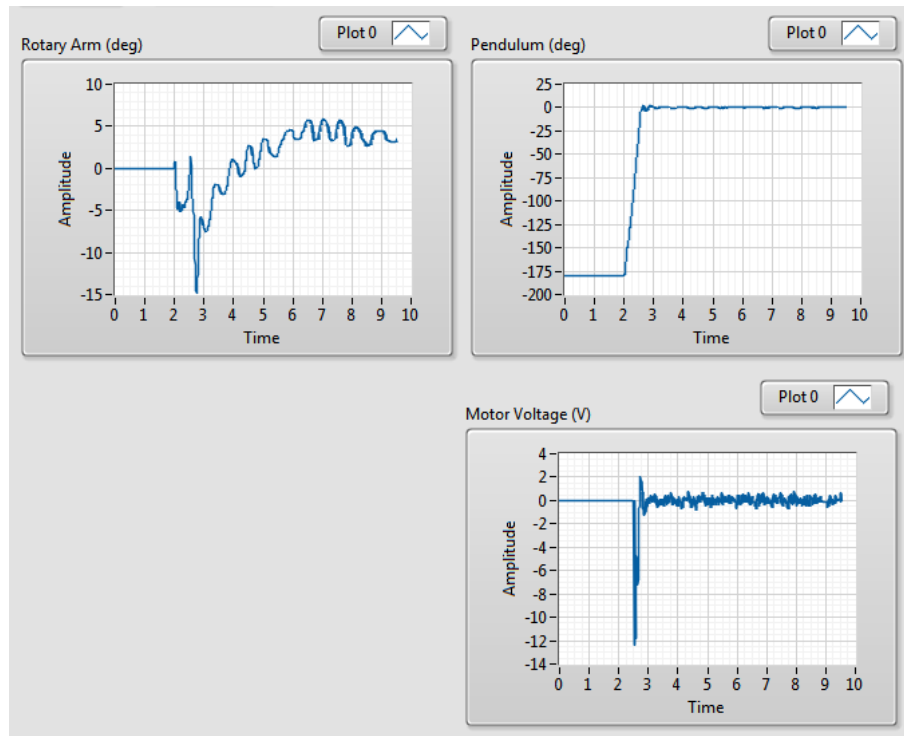

Figure 10.3: QUBE-Servo rotary pendulum response
5. Manually rotate the pendulum in the upright position until the controller engages. The scopes should read something similar as shown in Figure 10.3. Attach response of the rotary arm, pendulum, and controller voltage.